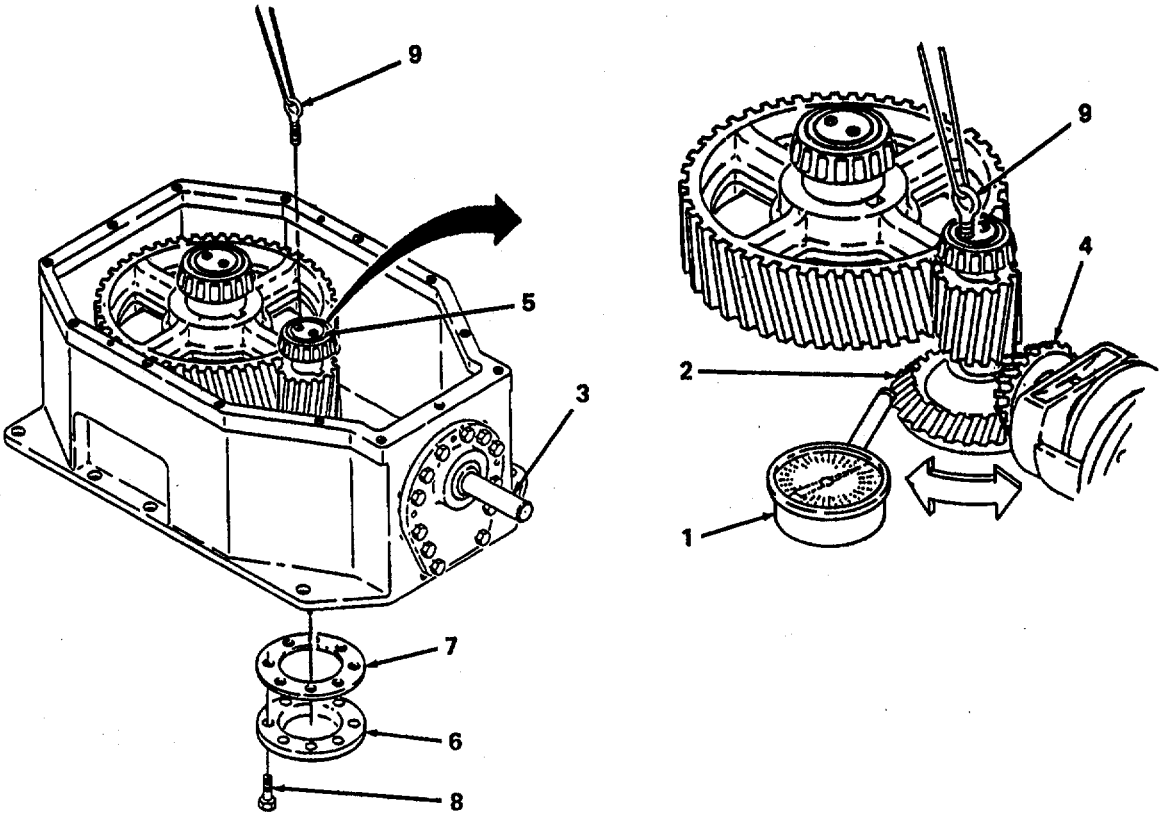

Figure 6-23. Adjusting Bevel Gear Backlash.
- (8) Adjust bevel gear backlash.
- (a) Position a dial indicator (1, figure 6-23) at the outside diameter of the bevel gear (2), perpendicular to the surface of one of the gear teeth.
- (b) Hold high speed shaft (3) so bevel pinion (4) cannot move.
- (c) Observe dial indicator (1) and rotate bevel gear (2) back and forth as far as it will go without moving bevel pinion gear (4). The reading on the dial indicator is the bevel gear backlash.